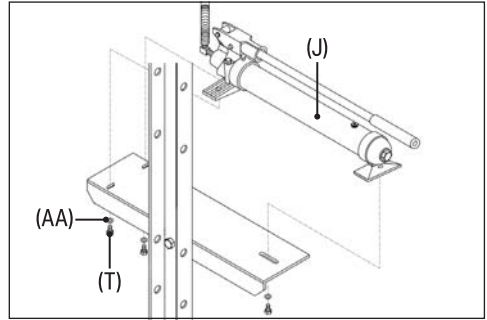

Fig. 8
b. Mount the hydraulic pump unit (J) onto the pump plate and pass three M8 x 16mm hex bolts (T) and M8 washers (AA) up through the bottom of the plate to secure it (Fig. 8).